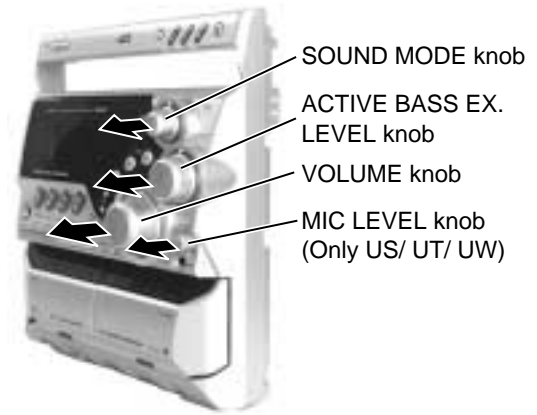

Fig.23
■Removing the front board (See Fig.23 and 24)